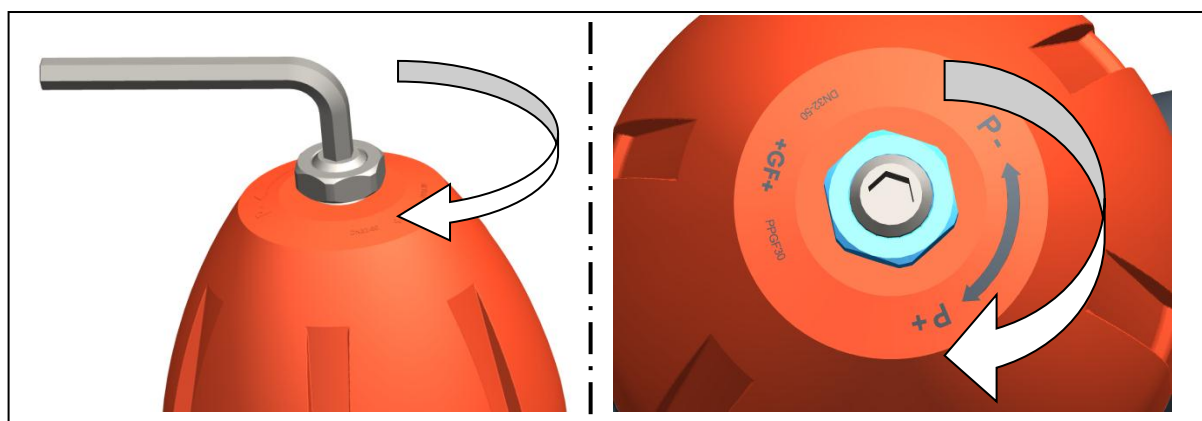

Fig. 4
- In order to increase the setpoint value: Tense the spring. To do so, turn the spindle clockwise, see Fig. 4